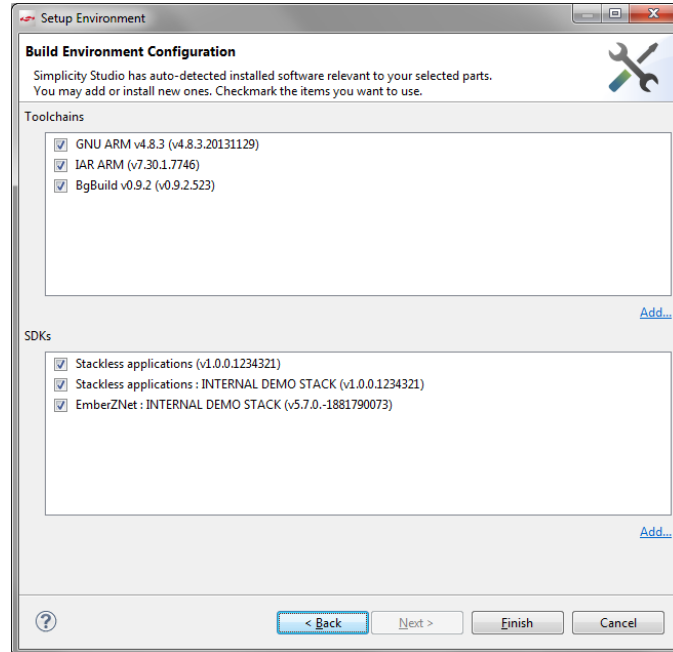

Figure 8. Build Environment Configuration
8. A Build Environment dialog is displayed that shows detected items (Figure 8). If a Toolchain or SDK is not shown, you can click Add... to configure it now, or configure it later from the Settings control. Adding the EmberZNet PRO stack SDK is described in section 3, Discovering the EmberZNet PRO Stack. Click **[Finish]**. The Simplicity perspective, described in the next section, is displayed.
If you are discovering from the initial setup process **Add ...** step (Figure 8), go to step 4. If you are discovering the SDK after initial setup, begin with step 1.